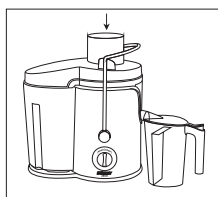
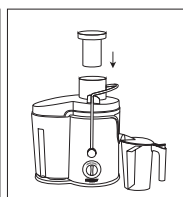

Fig. 10
Fig. 11
2. Switch on the appliance and put materials like fruit, vegetable into the feeder (B), juice will come out from spout (L). If material is stuck in feeder, use pusher (A) to push materials down. See Fig. 10 and Fig. 11